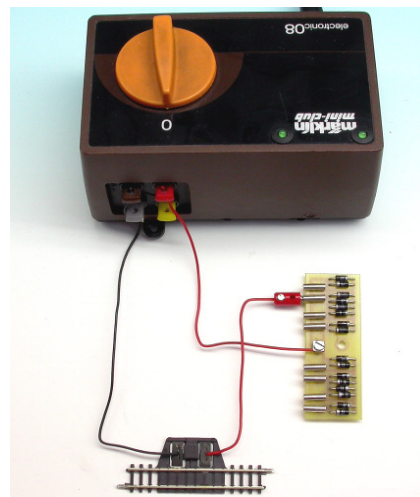

figure 2: An overview of how to connect the component
4. The component has to be countersunk to one of the feed wires from the transformer to the tracks, preferably to the red wire which carries the positive potential. See figures 2 and 3. For the whole assembling process, no brazing is necessary. Dismantle the wire coming from the transformer and fix it firmly in a screw clamp. Dismantle the red wire coming from the tracks as well, connect it to the provided plug and insert it into **one** of the silver sockets, figures 2 and 3. As can be seen on the diagram, the reduction is weaker towards the top side and stronger towards the bottom side. The voltage is getting diminished for about 0,7 volt per reduction stage. This does not produce any important amount of lost heat. The current conducted through the wire has a maximum amperage of 1 ampere, all the common throttles usually have a lower power rating. There is no need for a special protection against overload or short circuit. The protection already built in the throttles is sufficient.
5. For the brown Märklin™ throttle 6701, to be seen in figure 2, a connection to stage 1 – 4 is sufficient. The voltage reduced there predominantly affects the maximum speed. The low speed running properties are not affected. For the white throttle 67011, all sockets are recommendable, but mostly the stages 5 – 8. There the maximum speed is being reduced at a stronger degree. This also influences the slower speed and the low speed running properties. However, these are not very important with the model 67011 since they almost do not exist.